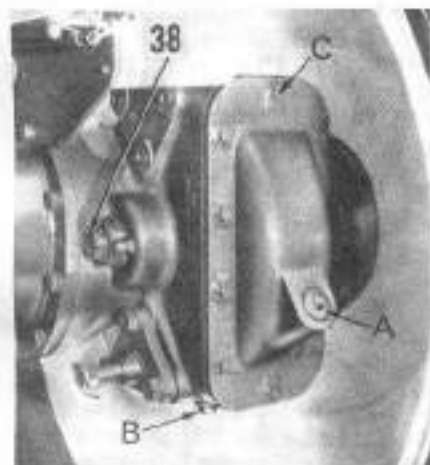

Fig. 134—View showing location of axle bearing adjusting screw (38) at inner side of final drive housing on some models.
Axle shaft bearings (25 & 31-Fig. 139) are adjusted on 1210 and 1212 models by turning screw (38-Fig. 134). The adjusting screw (38) should be removed, then reinstalled loosely without shims (37-Fig. 133) before tightening screws which retain housing (22) to 50 ft.-lbs. torque. Bump outer end of axle toward tractor with a soft faced hammer to seat bearings (25 & 31), then turn screw (38) in until all end play is removed from axle bearings. Measure clearance between head of adjusting screw (38) and shoulder of housing (8), then install shims (37) 0.006 inch less than measured thickness to provide bearings with correct amount of preload.